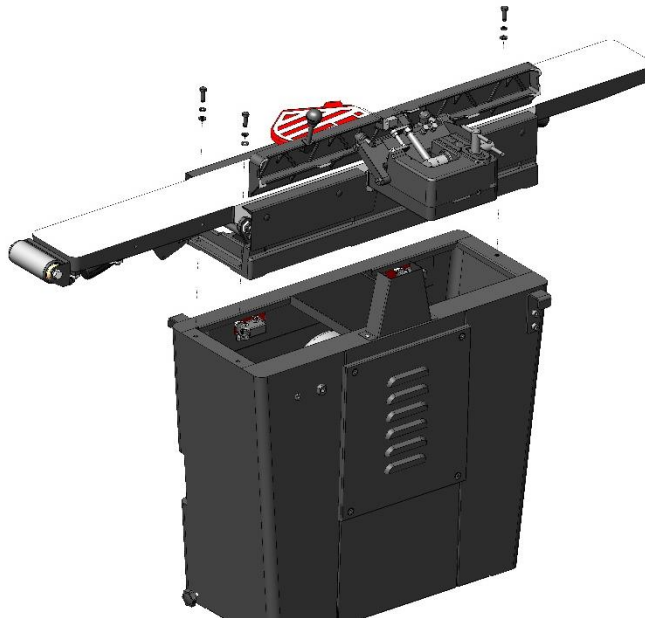

FIGURE 5: ASSEMBLING JOINTER
3. Insert three bolts, with the lock washer and flat washer into each hole of jointer body (Fig. 5). Thread each bolt into the mating nut (factory secured) of the stand.